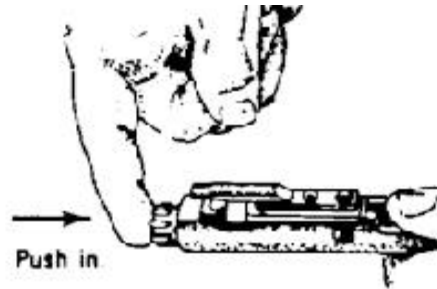

Figure E-13. Bolt in the locked position.
k. Put the bolt assembly in the locked position by pushing in the bolt (figure E-13).